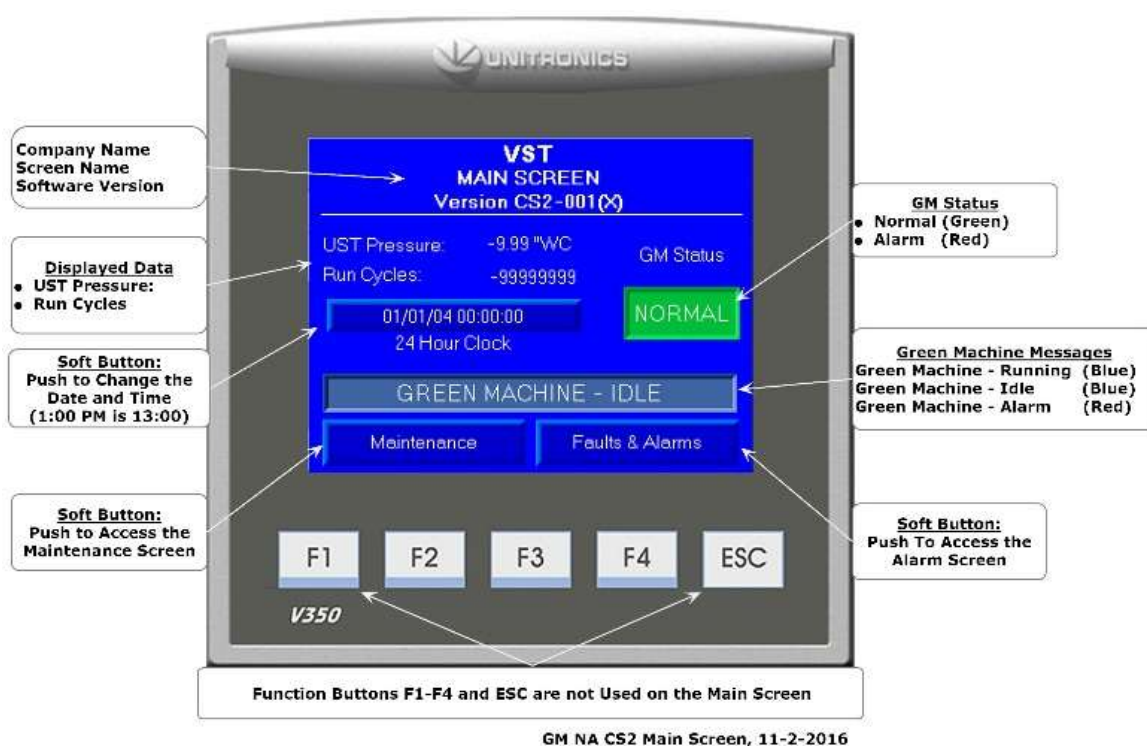

Figure 10-1: Main Screen
1. From the Main Screen (**See Figure 10-1**) push the Maintenance soft button on the PLC screen.